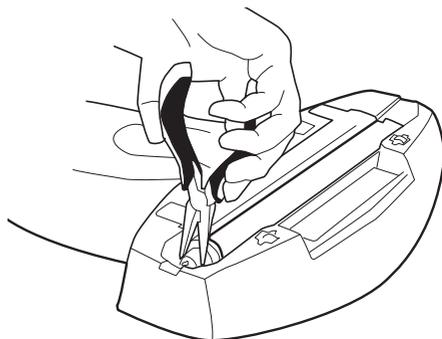

Figure 6
4. Using a small pair of pliers at one end of the bulb, rotate the bulb 90 degrees and remove. (See Figure 6)